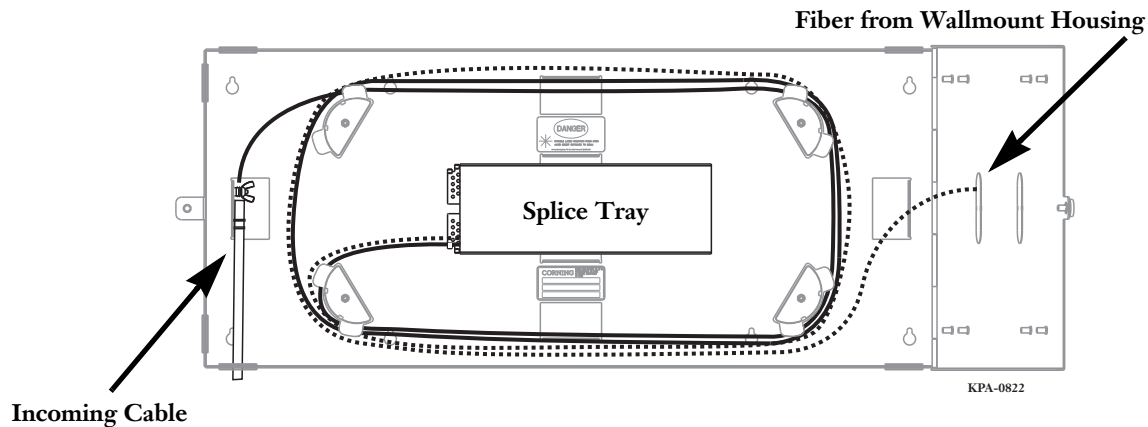

Figure 9 — Install Splice Tray
- Step 1:** Route the pigtails through the knockouts from the wallmount housing into the SSH unit (Figure 9).